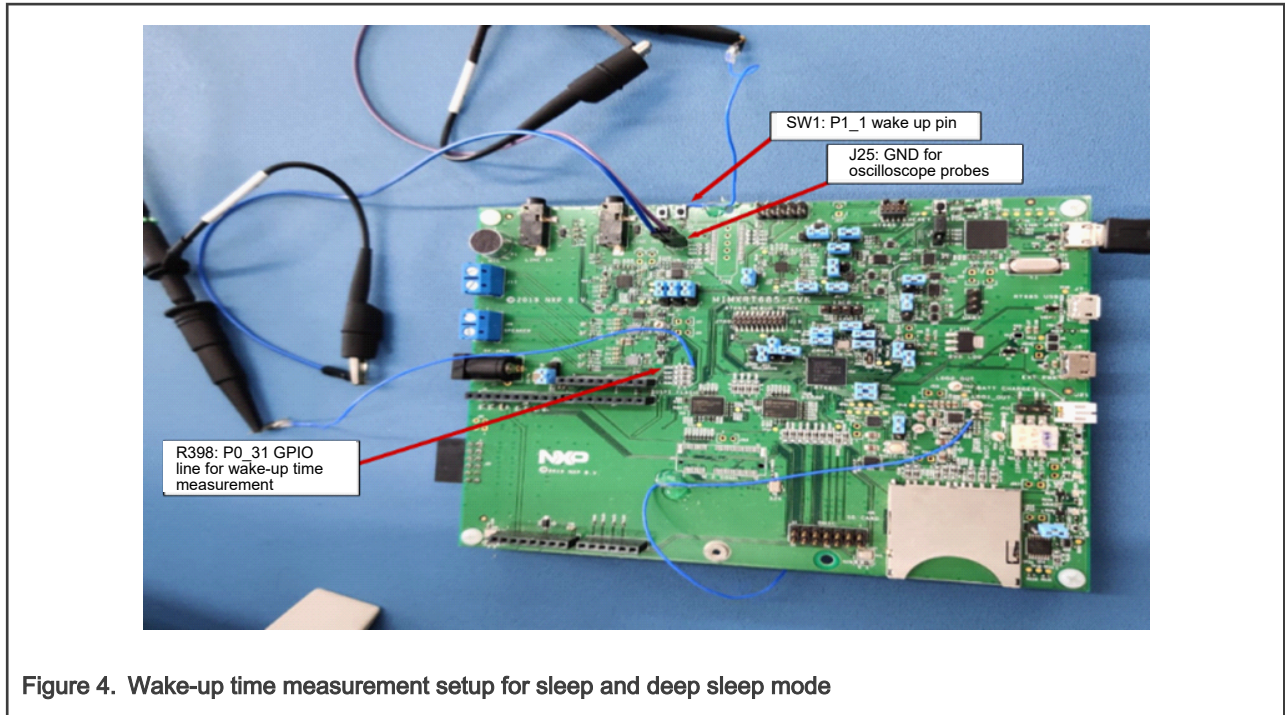

Figure 4. Wake-up time measurement setup for sleep and deep sleep mode
3. Connect both oscilloscope probes with GND on J25. Refer to the Figure 4 for connection details. Once the connections are done power up the board by connecting USB cable between J5 (if using USB) or J6 (if using UART) and PC.